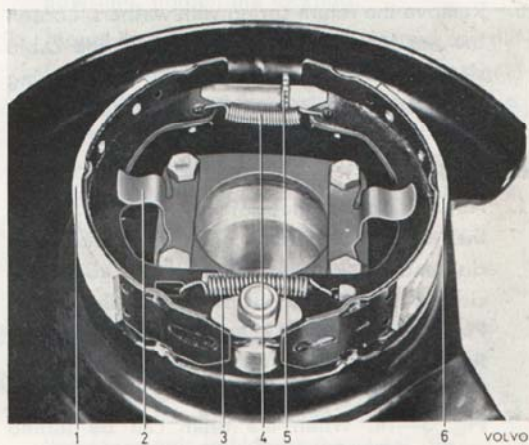

Fig. 5-20. Handbrake unit
3. Fit the brake shoes, see Fig. 5-18. The shorter sleeve on the adjusting device should be turned forwards on the right-hand side and backwards on the left-hand side, see Fig. 5-20. Hook on the lower return spring.